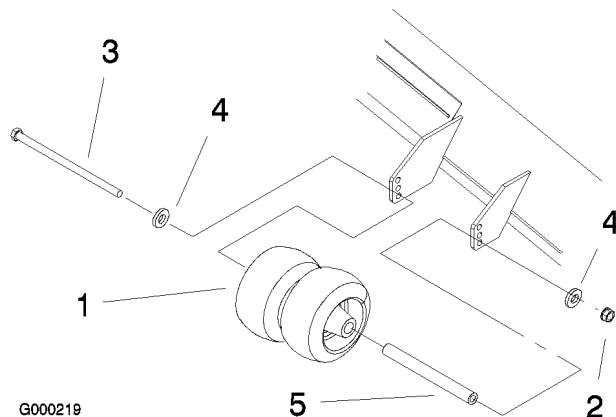

Figure 25
1. After adjusting height-of-cut, check the gage wheels so that there is a minimum of 3/8 inch (10 mm) clearance above the ground (Figure 25).
2. If adjustment is needed, remove the bolt, washers and nut (Figure 25).
3. Select a hole position so the gage wheels are a minimum of 3/8 inch (10 mm) off the ground (Figure 25).
4. Install the bolt, washers and nut (Figure 25).